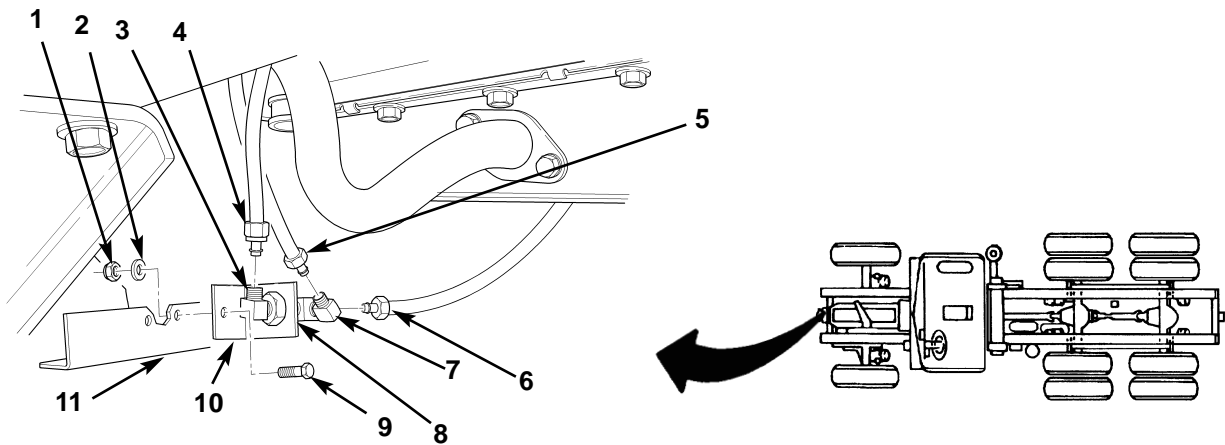

Figure 1. Removing Front Crossmember Air Block.
1. Disconnect three air tubes (figure 1, items 4, 5, and 6) from two elbows (figure 1, items 3 and 7) and adapter (figure 1, item 8).
2. Remove locknut (figure 1, item 1), washer (figure 1, item 2), bolt (figure 1, item 9), and bulkhead fitting mount (figure 1, item 10) from front crossmember (figure 1, item 11). Discard locknut (figure 1, item 1)